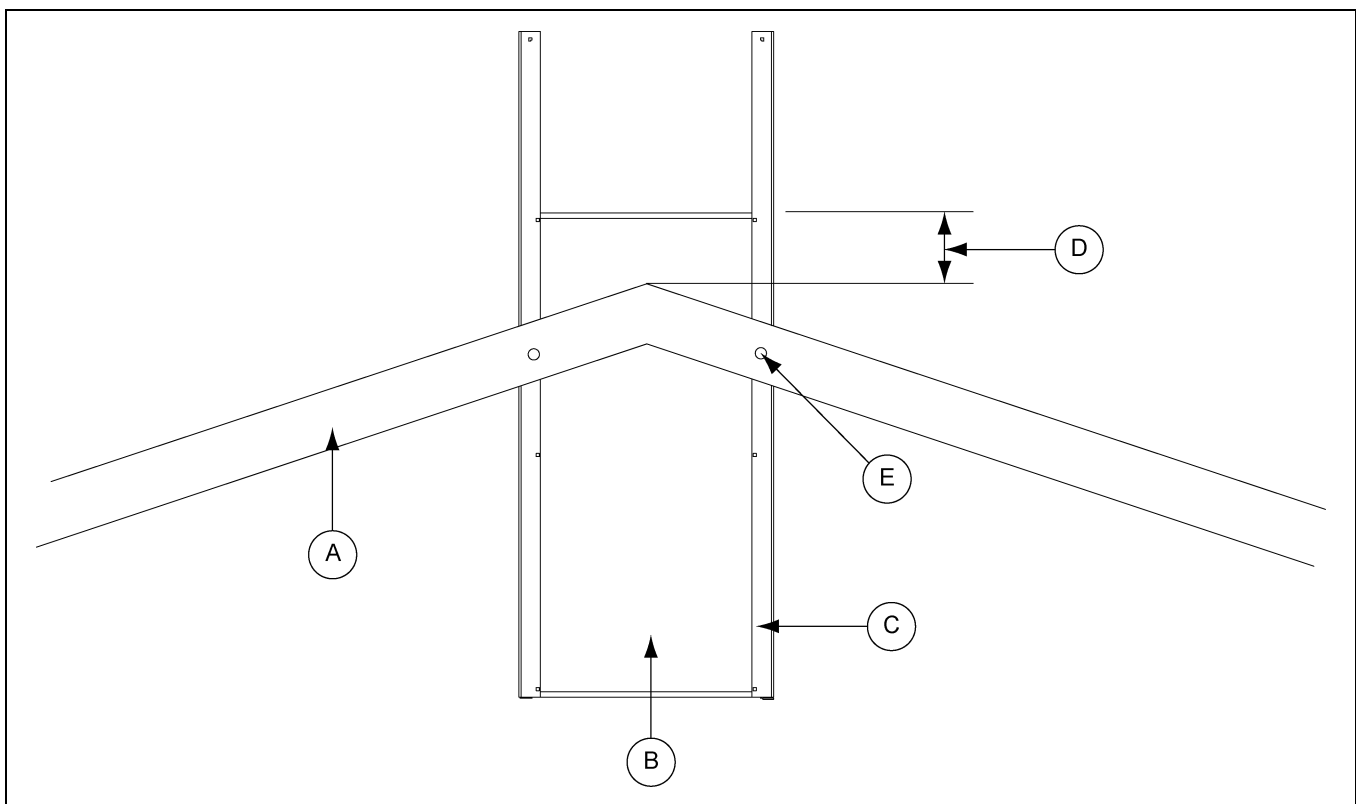

Figure 2F
1. Construct a framed opening using 2" x 6" wood framing through the roof (A) that is 36-1/2" by 36-1/2". The framing is to be constructed from good quality construction lumber, southern pine, douglas fir larch or a wood species with the same or better dowel bearing strength. Consult with your building engineer to determine proper framing support and to verify structural strength of building is adequate for the addition of this Chimney.
2. Hoist the chamber up through the opening until the top of the chamber (B) extends above the roof 18" (D).
3. Connect the chamber to the framed opening using 5/16" lag bolts (not supplied) (E) that go through the aluminum angles (C) at the corners of the chamber. Of course, holes through the angle and foam must be drilled first for the lag bolts. Two (2) lag bolts per corner for a total of eight (8) lag bolts must be used. The lag bolts are to be attached through the vertical centers of the 2" x 6" framing. (See Figure 2F.)